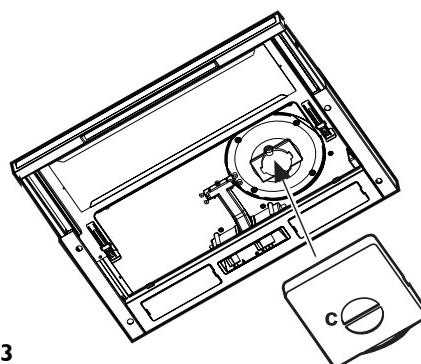

Fig.3
5. If the hood is not perfectly aligned with the lower edge of the wall unit, adjust by loosening the screws **P** of brackets **E** fitted on the hood (**Fig. 3**), then retightening them.
3. If the carbon filter is already fitted and needs replacing, remove it by turning the middle handle (**Fig. 3-c**) anticlockwise to release the filter.
4. If the carbon filter is not fitted, apply it over the motor protection grille, then turn the middle handle (**Fig. 3-c**) of the filter clockwise.